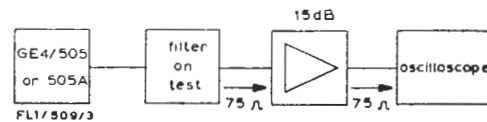

Fig. 3 Test Arrangement
1. Connect up the equipment as shown in Fig. 3.